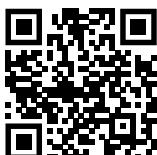

Fig. 155
- Hapni **Liebherr SmartMonitoring Dashboard**. (shihni Fig. 155)